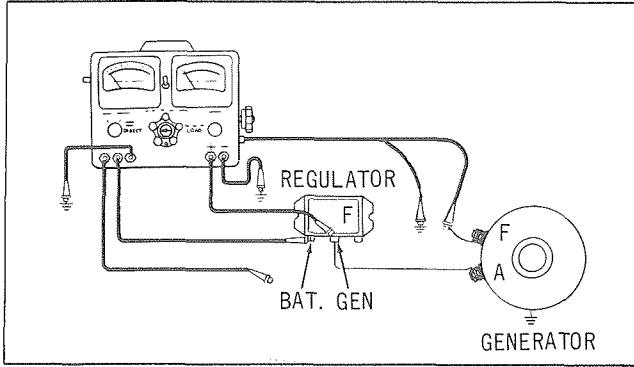

Figure 5I-11.
This reading will be equal to the current limiter setting. If not within specifications (see Fig. 5I-1), replace or adjust according to manufacturer's Service Bulletin and retest. Take final reading with regulator cover in place.
B. TESTER CONNECTIONS (See Fig. 5I-11)